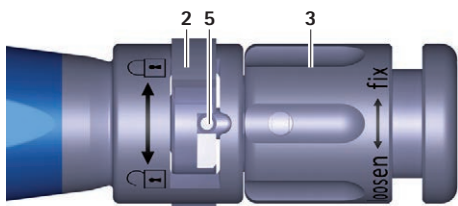
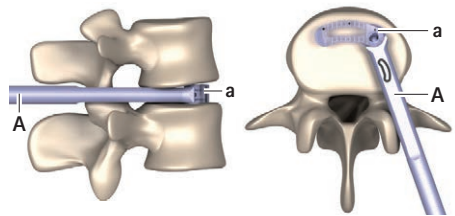

Fig. 3 Close-up view of the insertion instrument, switch closed
Fig. 11 Implant in end position
- ▶ Turn the switch **2** to the right (direction ) , see Fig. 3.
- ▶ Turn the rotary nut **3** counterclockwise ("loosen" direction), until the pin **5** is fully in the switch **2**, see Fig. 3. When doing so, ensure that the pin **5** does not jam the switch **2**.
- ▶ Once the end position (see Fig. 11) is reached: turn the rotary nut **3** counterclockwise ("loosen" direction), until the pin **5** is fully in the switch **2**, see Fig. 3. When doing so, ensure that the pin **5** does not jam the switch **2**.